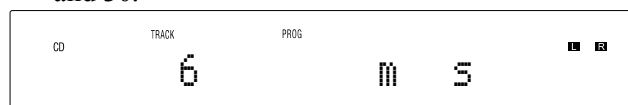

Figure 29
2. Enter the first desired selection (track 6) using the Numeric Push-buttons. The Front Panel Display will first indicate track 6 followed by indicating the total number of tracks and total playback time for the current program. Refer to figures 29 and 30.